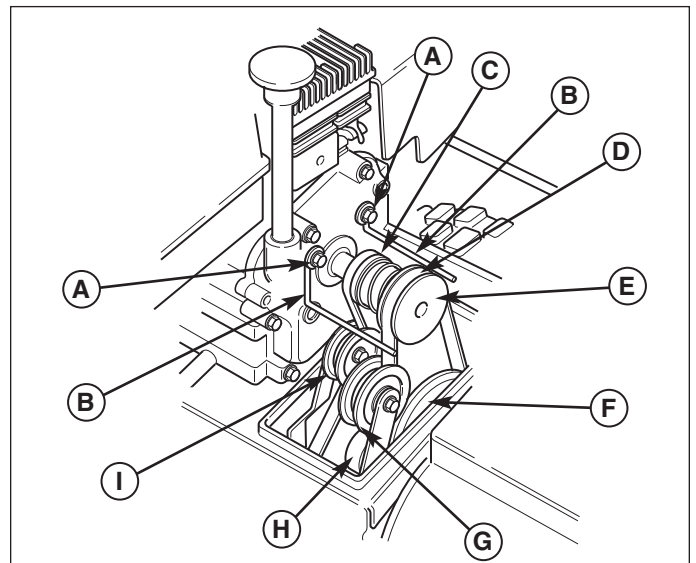

Figure 17. Belts and Pulleys
3. Move the belt guides (B, Figure 17) by loosening the two capscrews (A).
- a. Slip the broom drive belt (D, Figure 17) from the idler pulley by pushing it away from the pulley and then toward the rear.
- a. Pull the idler pulley (I, Figure 17) away from the belt and slip the belt from the pulley.
- b. Slip the belt off the traction pulley and then the engine pulley. The arm for the front idler pulley (G, Figure 17) may have to be pivoted to provide clearance for removing the belt from the traction pulley.
- c. Pull the belt out between the broom pulley (F, Figure 17) and traction pulley.